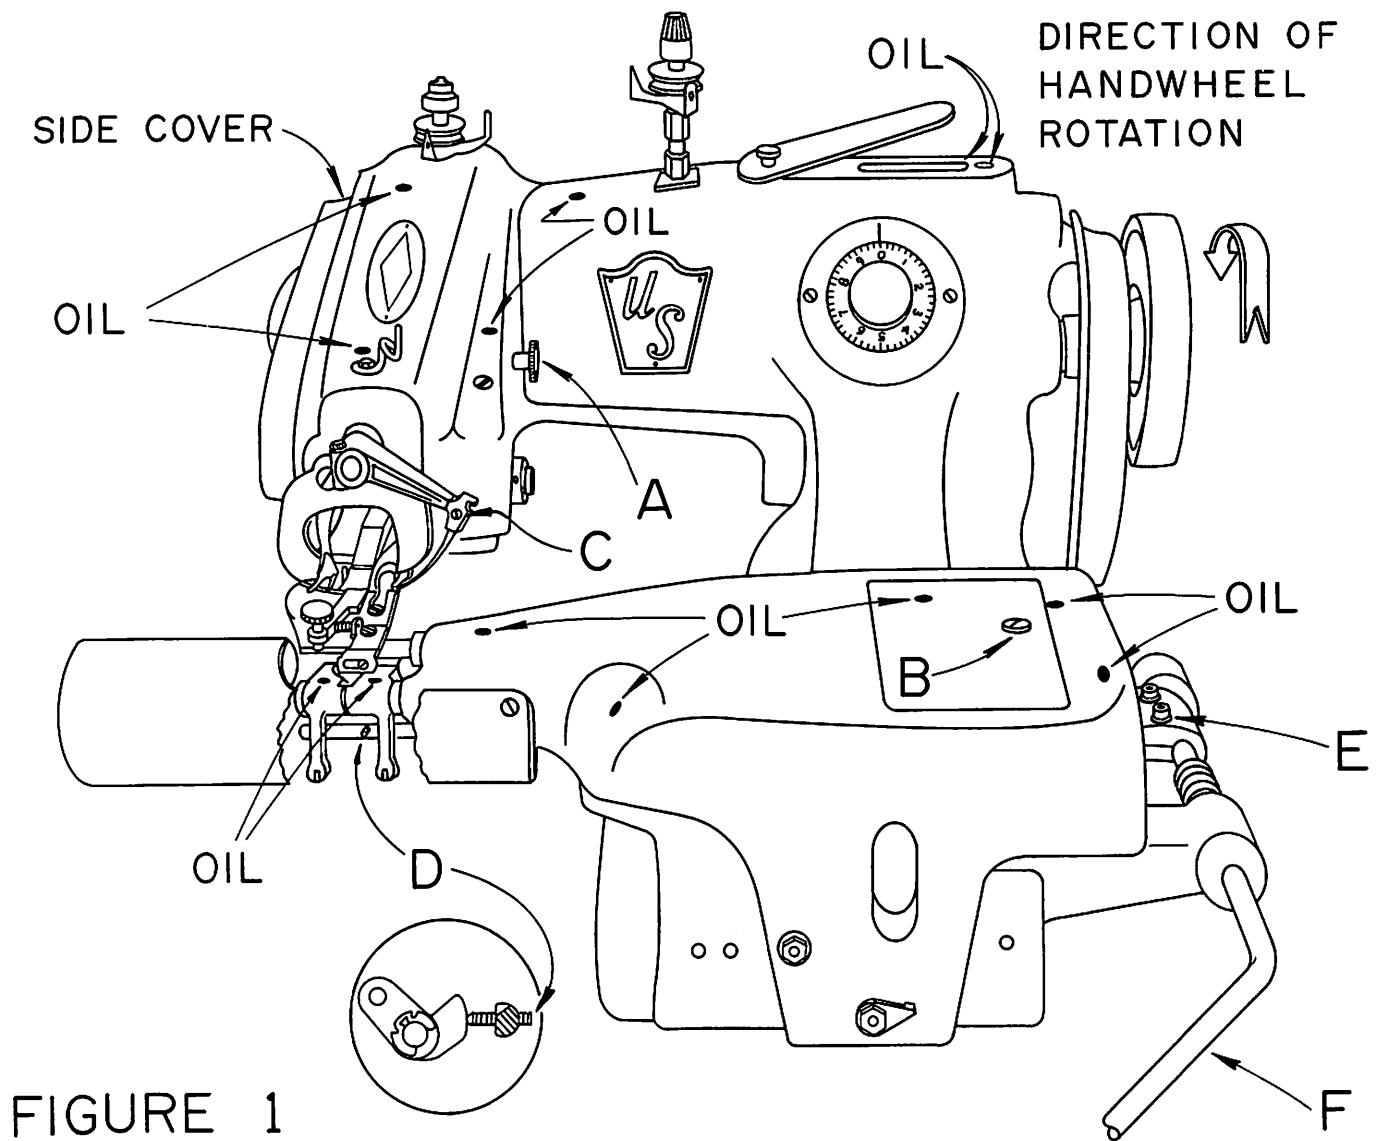
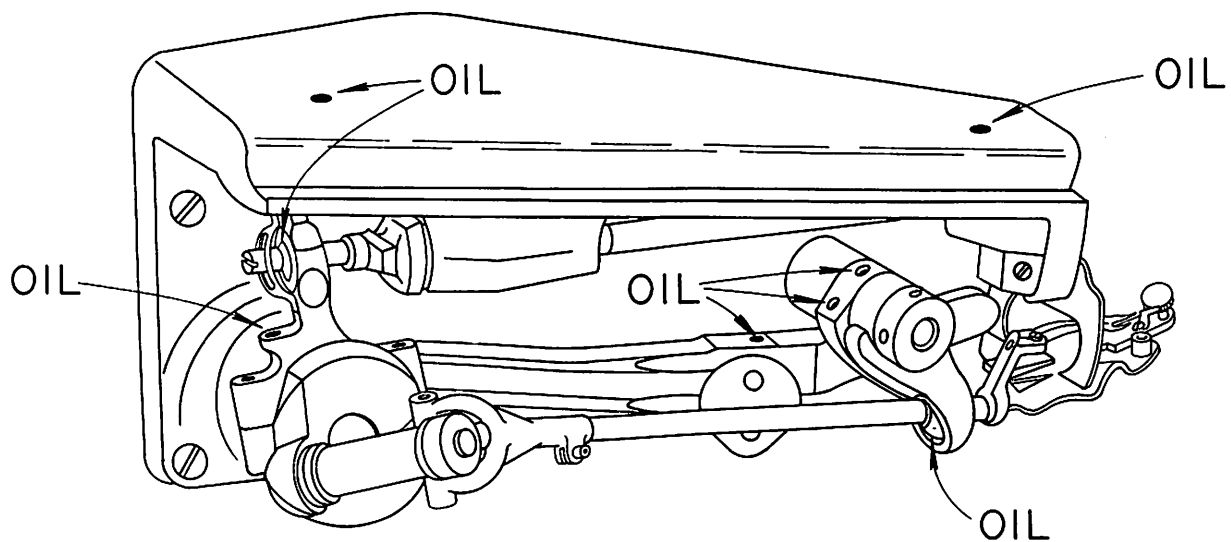

FIGURE 1
FIGURE 2
2. Place a few drops of oil at all the points shown on the oiling chart in Figure 1. Remove the table cover shown on Figure 1 by loosening the cover attaching bolt "A". Then place a few drops of oil at all the points shown on the oiling chart in Figure 2.
2. To place lifter pad in proper position, loosen two screws (Item E, Fig. 1) and push down on rod (Item F) until the lifter pad is in comfortable position for operator knee, then tighten screws.
2. This adjustment is made by turning screw, Item "D", Figure 1, which is reached through the right hand clearance hole of the cylinder using a 1.5 MM (.059) allen wrench. Turn the screw clockwise for more tension, counter clockwise for less tension. This screw has been sealed in place with locktite and may be hard to turn. However, after overcoming the initial tightness, it can be moved and will remain in place without vibrating loose.
- b. Loosen the needle clamp screw (Item "C" in Figure 1), slide the clamp forward sufficiently to release the old needle, remove and discard it. Insert the new needle and push it up into the groove of the needle lever as far as it will go. Make sure that the flat on the shank of the needle faces forward and the needle is properly seated in the groove. Tighten the needle clamp screw and turn the handwheel slowly making sure that the needle passes lightly over the needle guide on the presserfoot and clears the looper.